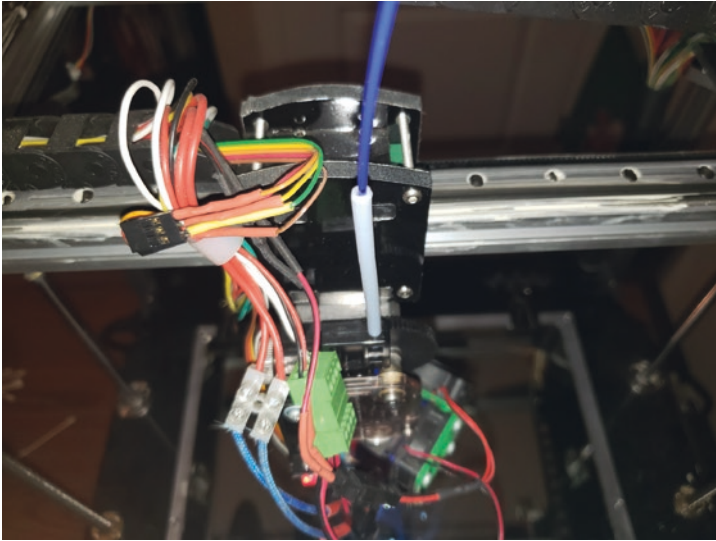

Figure 4-36. *This is what you want to see*
- 5. If the 100mm mark is above or below the entrance into the extruder, then you will need to adjust the steps/mm setting again. See Figures 4-36, 4-37, and 4-38.